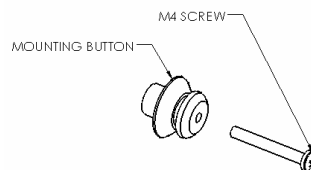
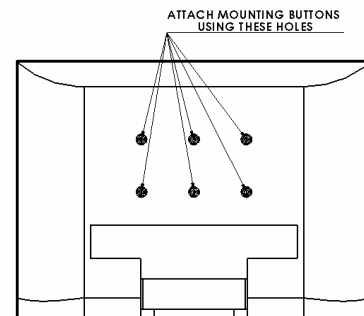

Figure 3
Figure 4
2. Attach mounting buttons to display using six M4 x 35mm screws provided (see Figure 3 & Figure 4).